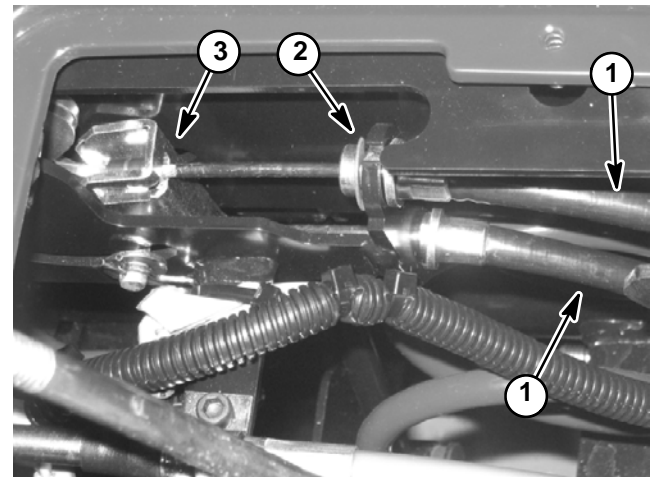

Figure 13
8. Disconnect brake cable from cable equalizer bracket (Fig. 13).
3. Install brake cable end to brake equalizer on parking brake lever. Secure brake cable to lever support assembly with retaining ring (Fig. 13).